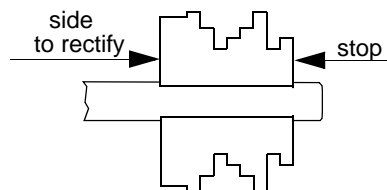
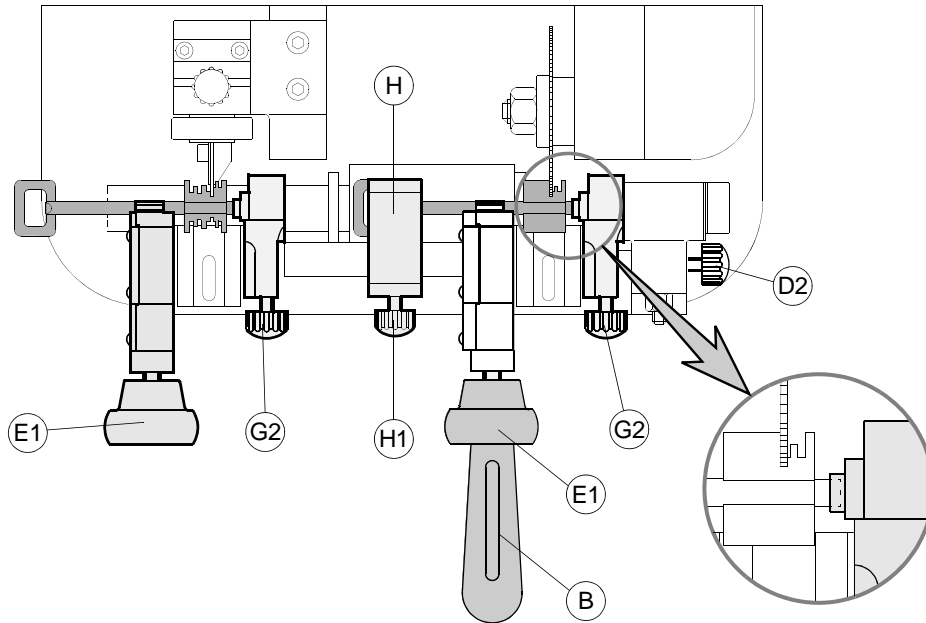

Fig. 15
Fig. 16
- 1) Align the mobile clamp (cutting tool side) by means of the carriage locking knob (D2) (fig. 16).
- 2) Fit the special centring devices (G) into their seat, pushing all the way in.
- 3) Place the original key into the clamp (E) on the tracer point side, pushing up against the centring device.
- 4) Push the key into the centring device so that the bit butts against the stop (fig. 16).
- 7) Take the head stop (H) up against the key to be cut and lock the knob (H1).
- 10) Turn on the key-cutting machine by means of the motor ON switch (N).
- 11) Take the carriage up to the tracer point and cutting tool by raising the carriage lever (A).
- 12) Grip the lever (B), turn upwards to avoid the cutting tool coming into violent contact with the bit and cut the tooth.
- 15) It is advisable to rectify the side of the key opposite the stop (fig. 15)